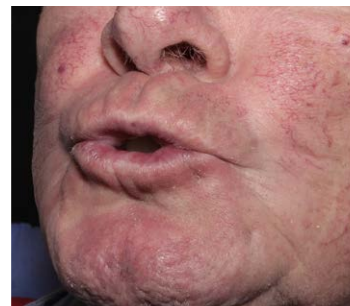

Figure 16: (Above)
1. The patient occludes and moves the lips to create a “woo” sound, which shapes the labial denture border (Fig. 16).